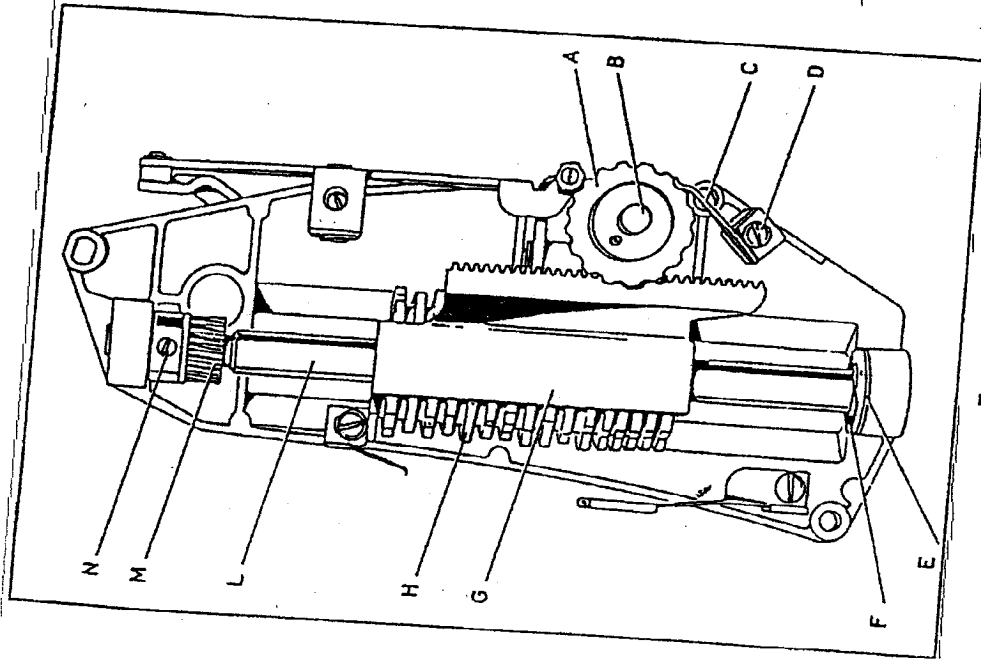

Fig. 15
a) Disassembly of the zigzag automatic group (fig. 15)
- tighten grub screw, which is in a symmetrical position in respect to the pin on which the selector knob is engaged, on the flat surface of pin B, eliminating the play of the pin itself (fig. 15);